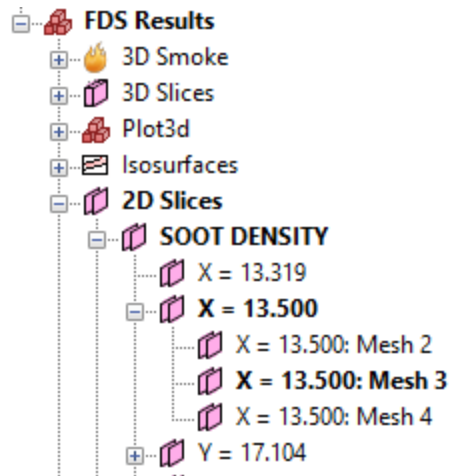

Figure 49. Activated 2D slice in the Navigation View
- In the Navigation View, the label for the object becomes **bold**. In addition, all the parent nodes of the object become bold as well. For example, if **SOOT DENSITY slice X = 13.5000 : Mesh 3** is activated, the Navigation View will appear as shown in Figure 49. This makes it easy to see which items in a hierarchy are currently active even if a node is collapsed.